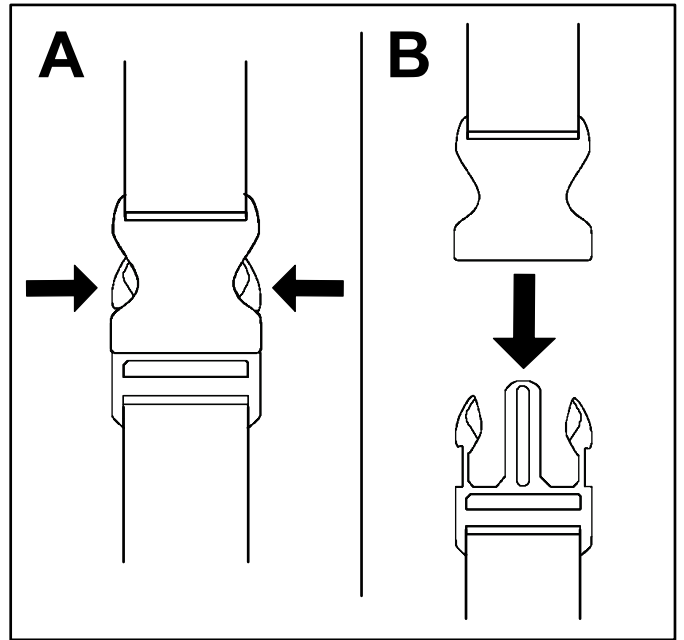

Figure 21
To shut off the blower, disengage the speed lock (if in use) and release the variable-speed trigger (Figure 21).
- Press in on the sides of the buckles (A of Figure 21).
- Allow the buckles to disconnect (B of Figure 21).